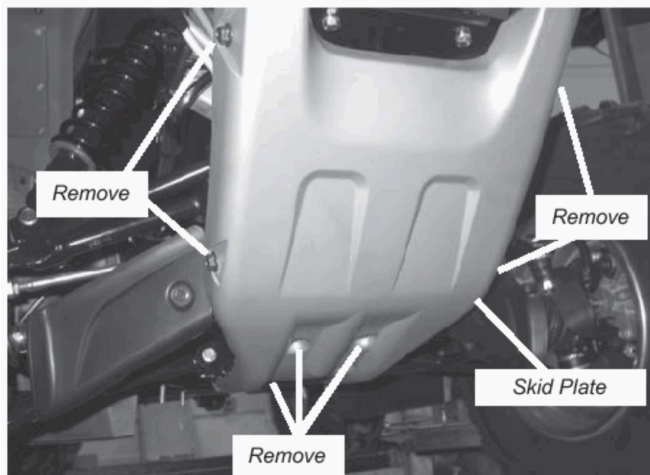

Figure 1 Remove Front Skid Plate
1. Begin by removing the front skid plate located on the front of your ATV. Remove the (4) side 8mm bolts and the (4) 6mm bolts securing the front skid plate, “Figure 1”